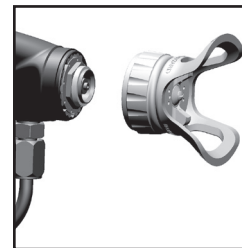

Fig. 4
1. Remove air cap along with spray tip. (See fig 4)
5. Replace the air cap along with spray tip. (See fig 4)